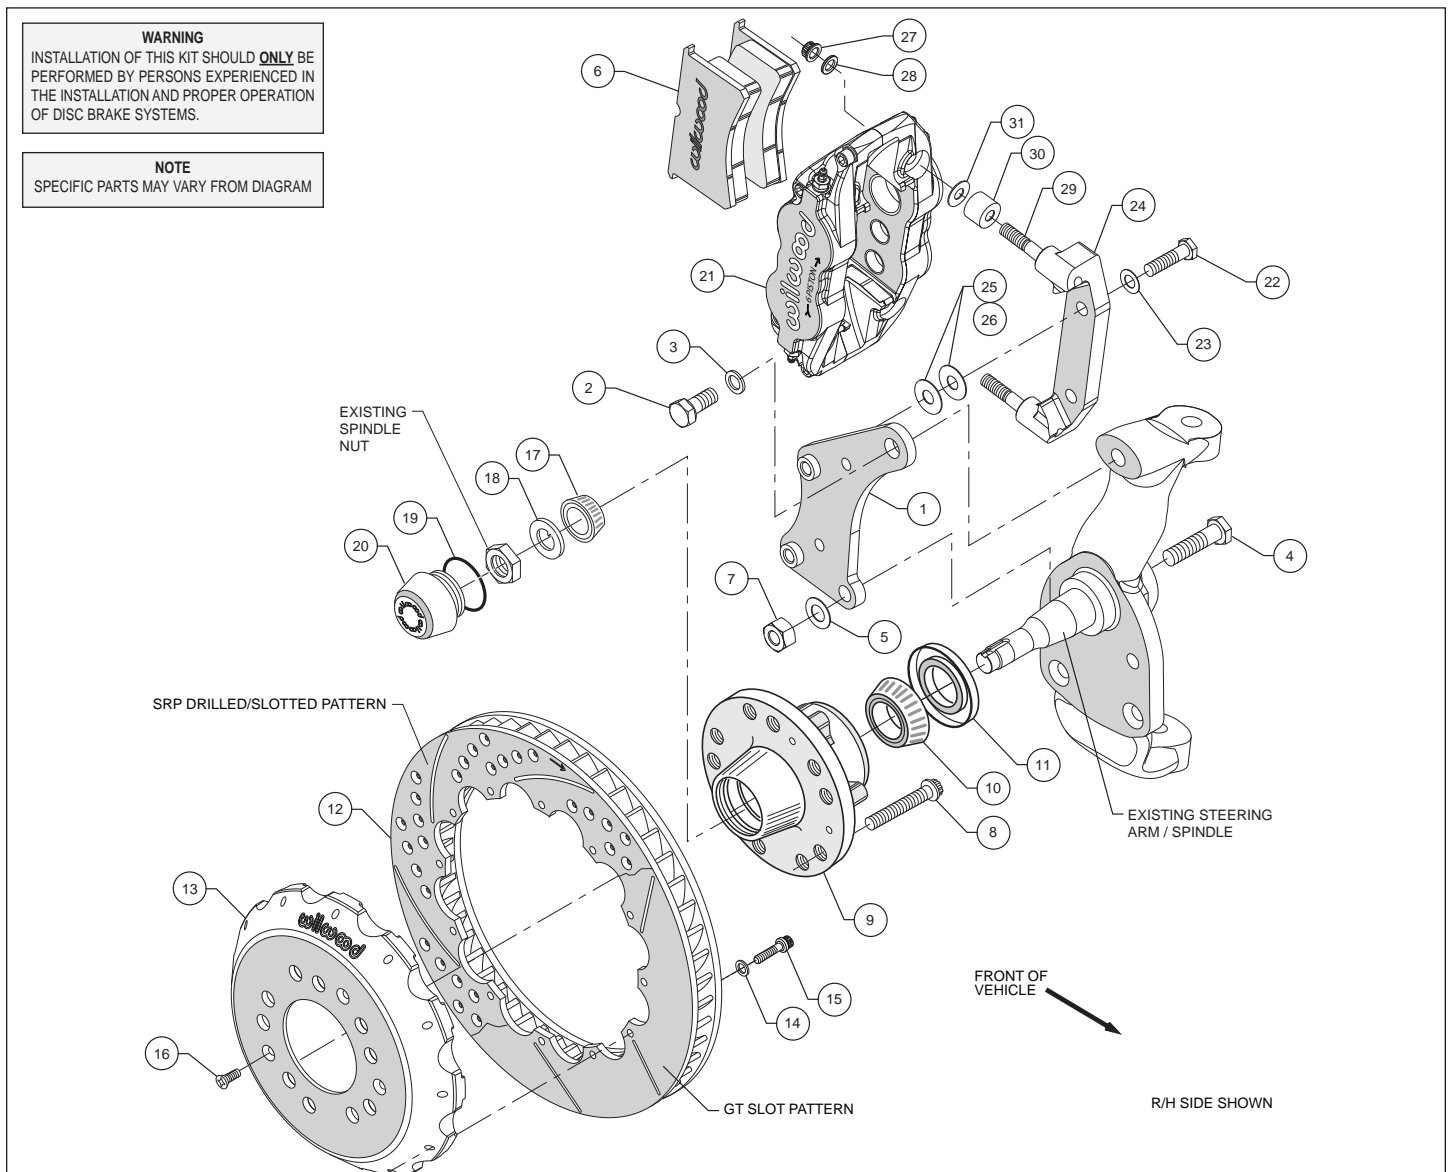

Figure 1. Typical Installation Configuration
- Mount the radial mount caliper bracket (24) to the first "flat" caliper mounting bracket (1) from the far side by sliding bolt (22) through washer (23). Place two .030 thick flat washers (26) between the two brackets (1 and 24) before sliding the mounting bolts (22) all the way into the first caliper mounting bracket (1). Finger tight only.
- NOTE:** This kit contains distinct right and left hand calipers that must be mounted in a specific direction, as described below. Lubricate caliper mounting studs (29) and nuts (27) with lightweight oil. Install spacer (30) and one shim (31) over each stud (29) on the radial mount bracket (24). Slide the caliper (21) in place over the studs and rotors and install the washer (28) and lock nut (27) to hold the caliper in place, Figure 1. Ensure that the caliper is mounted so that the largest pistons are at the rotor exit end of the caliper, in relation to the direction of rotor rotation. Snug the lock nuts (27) and check that the rotor (12) is centered in the caliper (21). Add or subtract .030" shims (26), or add additional .015" shims (25), as necessary between the radial mount bracket (24) and the flat bracket (1) to center the caliper. Finger tighten and recheck alignment. Use as many shim washers (combination of 25 and 26) as necessary to achieve the correct alignment. Apply red *Loctite*® 271 to bolt threads (22) and torque to 42 ft-lb.